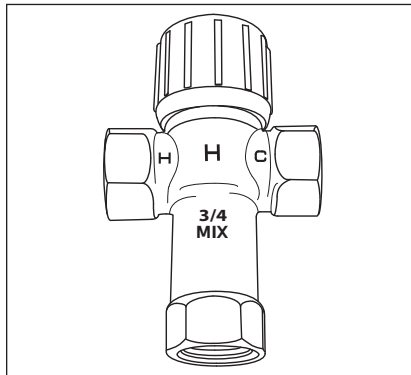

Figure 8 - Thermostatic Mixing Valves installed at each point-of-use can help avoid scalding.
- Point-of-use Thermostatic Mixing Valves (Figure 8 on page 8)
Install Thermostatic Mixing Valves (Figure 8) to regulate the temperature of the water supplied to each point-of-use (for example, the kitchen sink, bathroom sink, bath and shower). Consult the valve manufacturer’s instructions or a qualified person.
**⚠ WARNING! Even if the water heater thermostat is set to a relatively low temperature, hot water can scald. Install Thermostatic Mixing Valves at each point-of-use to reduce the risk of scalding (see page 4 and Figure 8).**